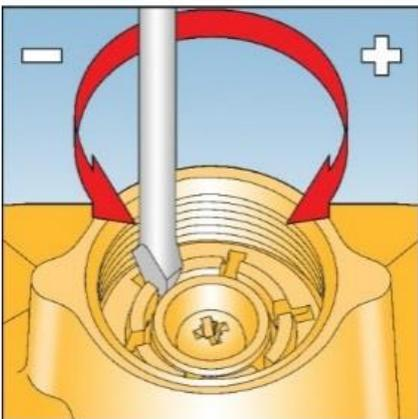

Fig. 12
3. Fully unscrew and remove top spring holder. See Fig. 12.
10. Screw top spring holder back in place, ensuring that castellated spigot is uppermost in chimney. See Fig. 12. (If UPSS only ensure that spacer tube is firmly clamped)